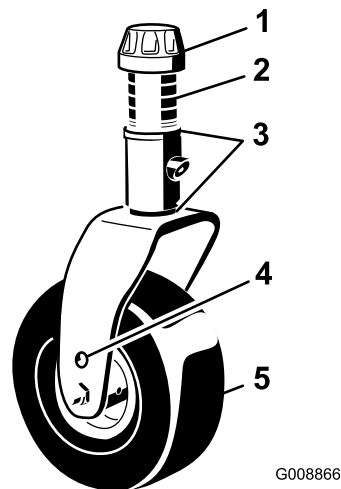
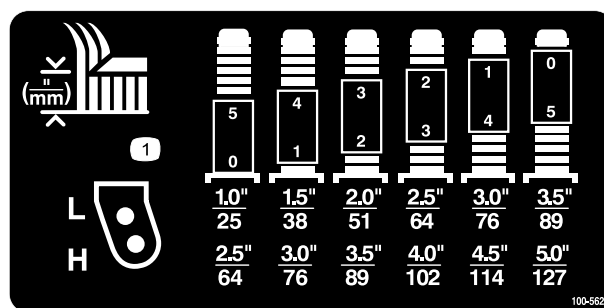

Figure 6
Figure 7
2. Position the castor wheel axles in the same holes in both castor forks. Refer to Figure 6 and Figure 7 to determine the correct holes for the setting.
- Remove the tensioning cap from the spindle shaft (Figure 6) and slide the spindle out of the castor arm. Put the 2 shims (1/8 inch) onto the spindle shaft as they were originally installed. These shims are required to achieve a level across the entire width of the cutting units. Slide the appropriate number of 1/2 inch spacers onto the spindle shaft to get the desired height-of-cut; then slide the washer onto the shaft.
Refer to Figure 7 to determine the combinations of spacers for the setting.